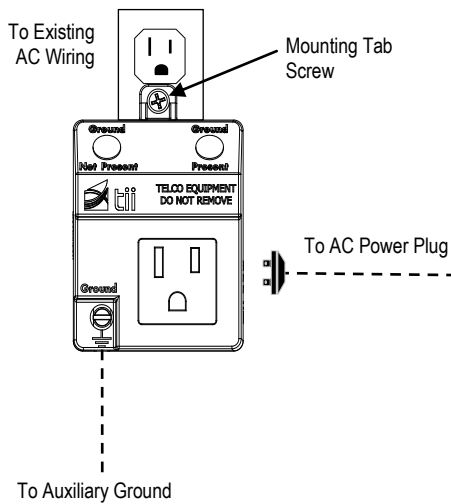

Figure 2
1. To secure unit with mounting tab, carefully remove the cover plate screw and discard. Install the TII 442 into an AC power outlet and secure the unit to the outlet using the mounting tab screw supplied (See Figure 2).